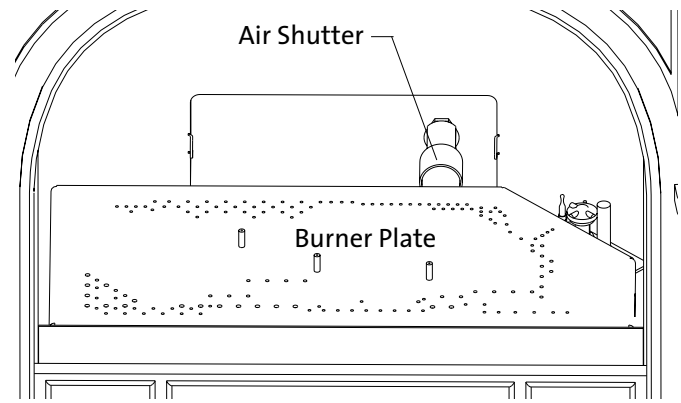

Figure 23. Remove the Air Shutter and Burner as a unit.
7. **Lift out the Burner Plate:** NOTE- There are no screws securing the Burner to the floor of the firebox. Pull the Air Shutter forward and lift the burner together with shutter up and out of the stove as a unit. See fig. 23.